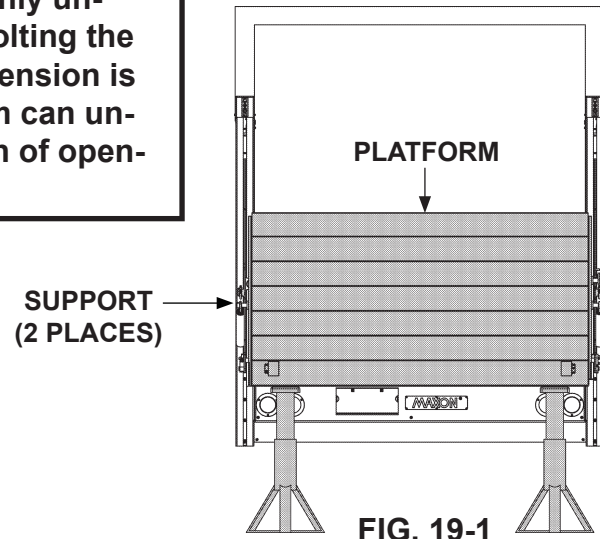

FIG. 19-1
1. Stow platform (**FIG. 19-1**). Ensure platform is latched securely. Refer to **Operation Manual** for detailed operating instructions.
2. Support bottom of platform and flipover evenly on RH and LH sides (**FIG. 19-1**).